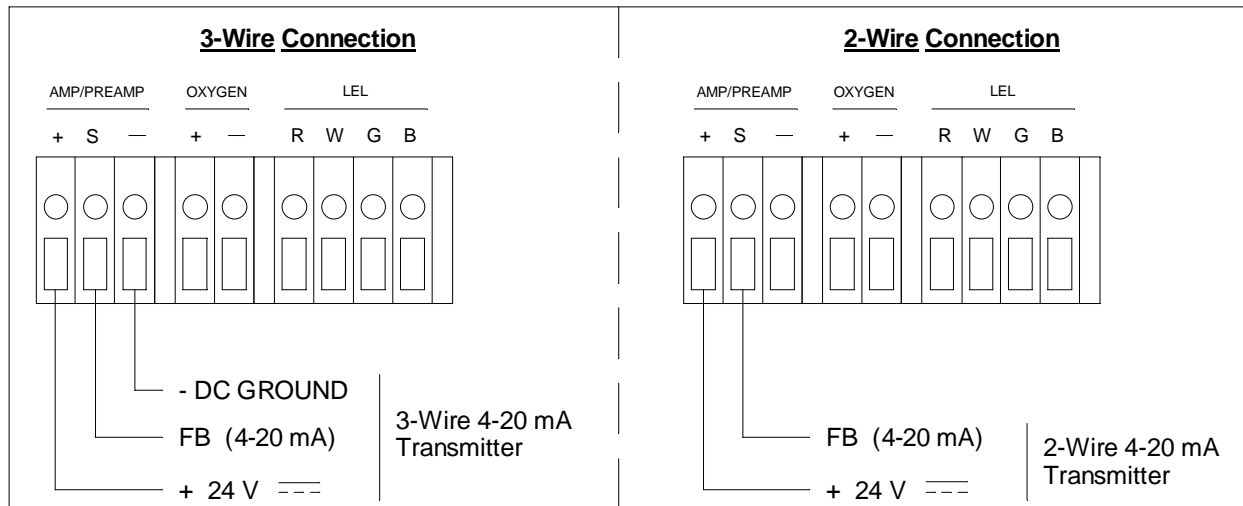

Figure 10: Generic 4 to 20 mA Transmitter Output Wiring
6. Connect the wires from the transmitter to the appropriate detector/transmitter terminals. The top detector terminal strip is for channel 1 and the bottom one is for channel 2. See the transmitter instruction manual for controller terminal connections. Figure 10 below illustrates typical transmitter wiring connections.